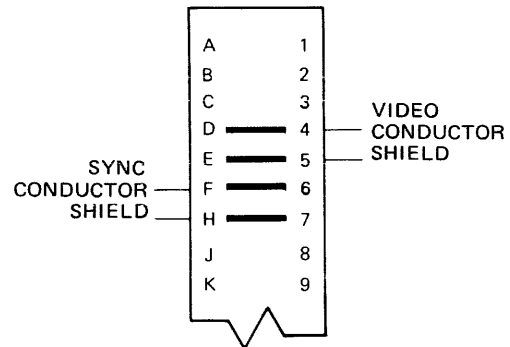
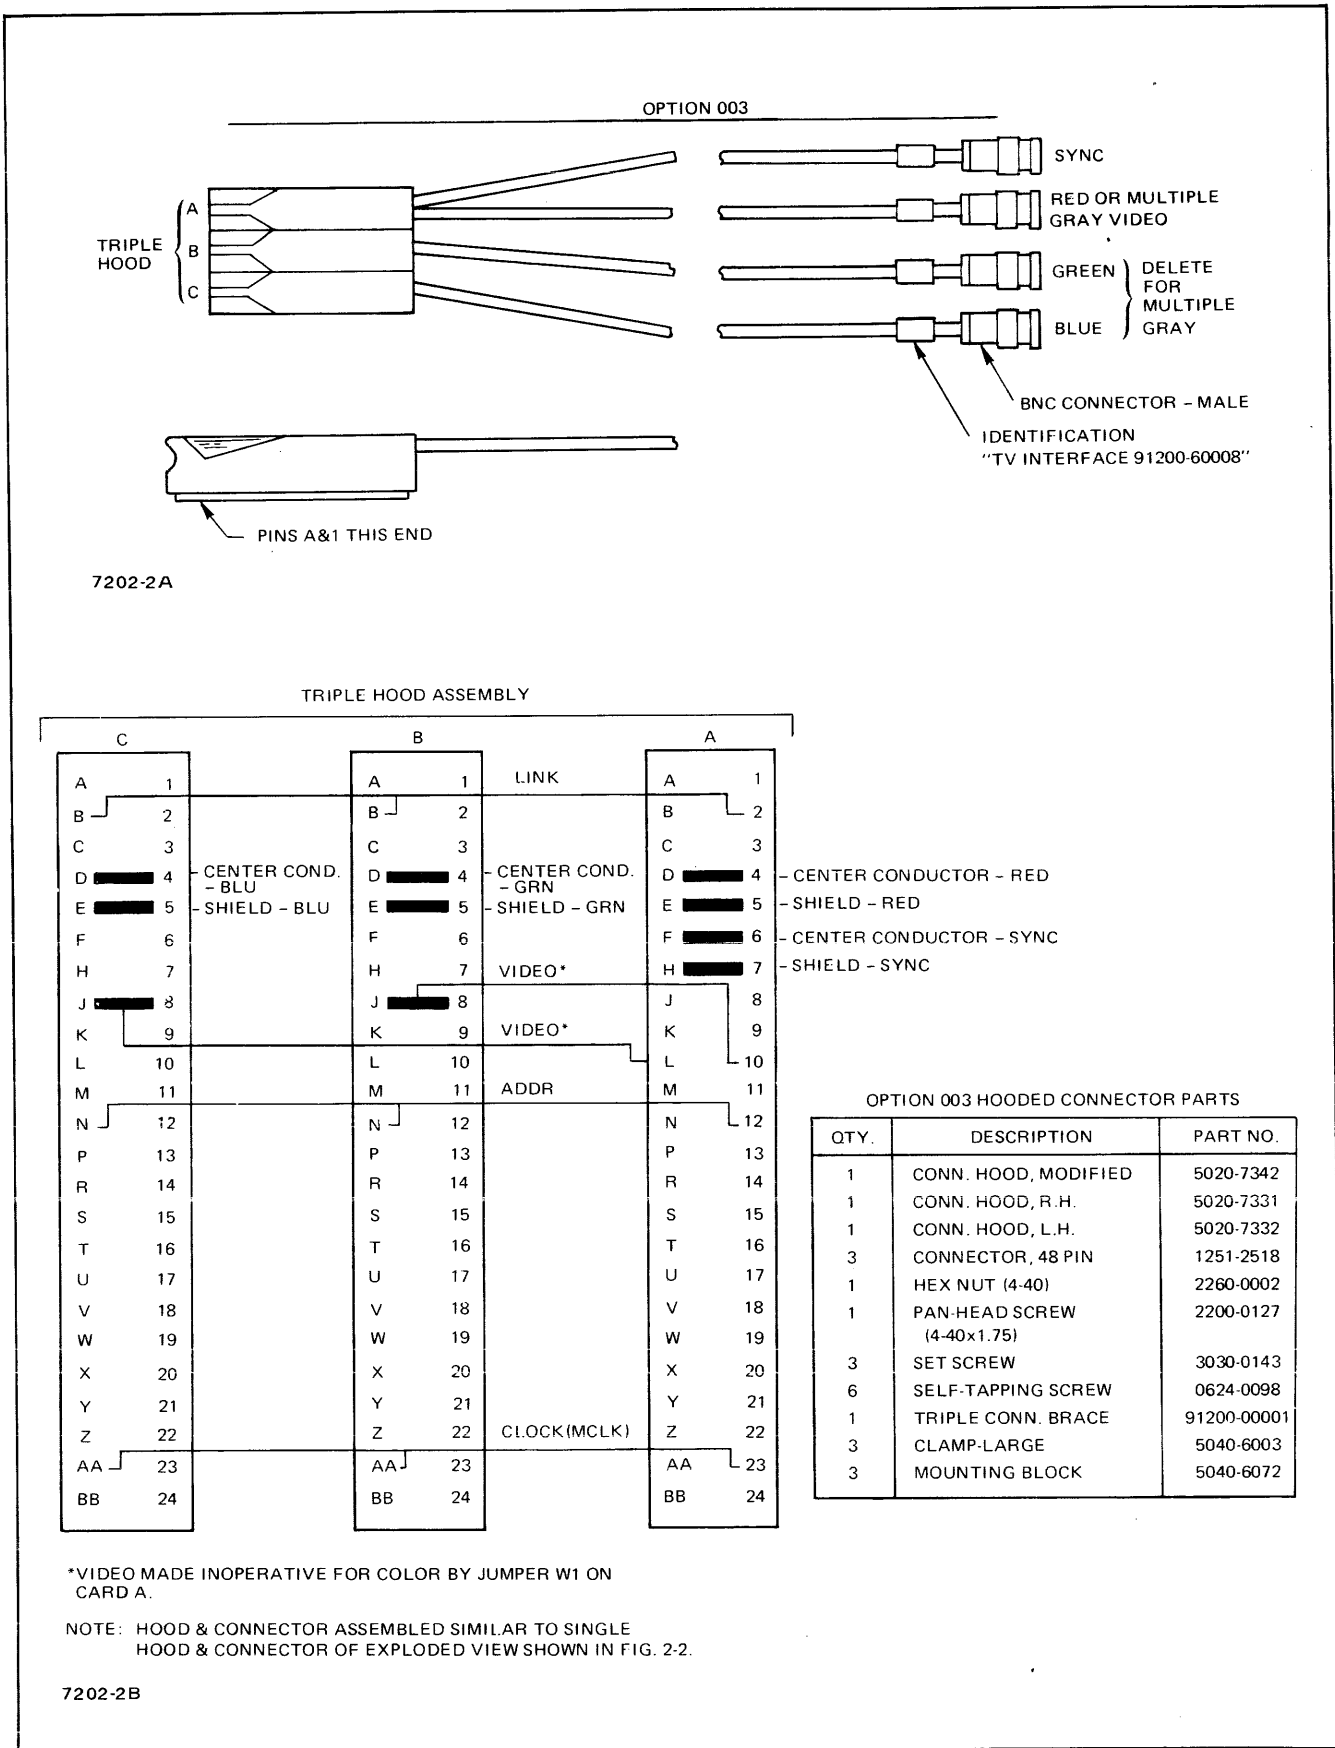

Figure 2-2. Cable Fabrication
Figure 2-4. Triple-Hood Assembly for Color or Multi-Level Gray
- e. When fabricating cable assemblies, use the hooded connector, part no. 02313-60010, supplied with each HP 91200B Kit unless this item was deleted by the use of one of the cable assembly options (001 and 003). Construction details are shown in figure 2-2.
2-15. Color monitors require a separate TV interface card for each color input of a color CRT. For this application, three cards are used with one option 003 triple-hooded connector. Two color inputs require two cards and two part no. 02313-60010 hooded connectors (supplied with the basic kit) with connectors and cables fabricated according to figures 2-2 and 2-4. The cards should sit side-by-side in either the computer I/O card cage or I/O extender. The master card (designated as card A) must be placed in the highest numbered slot of the group and will be addressed by the select code (or LU number in RTE systems) assigned to the TV interface subsystem. The master card is followed in descending order by slave card B and slave card C. Perform the following procedures to install a set of cards for color operation:
- b. The wiring of three-card cables and the triple PC card connector for color is shown in figure 2-4, using option 003. Two card setups, using single hoods, should be wired according to figure 2-4 with card C deleted and the hoods assembled as shown in figure 2-2.
- b. The wiring of three-card cables and the triple PC card connector for gray scale is shown in figure 2-4, using option 003. Two-card setups, using single hoods, should be wired according to figure 2-4 with card C deleted and the hoods assembled as shown in figure 2-2.